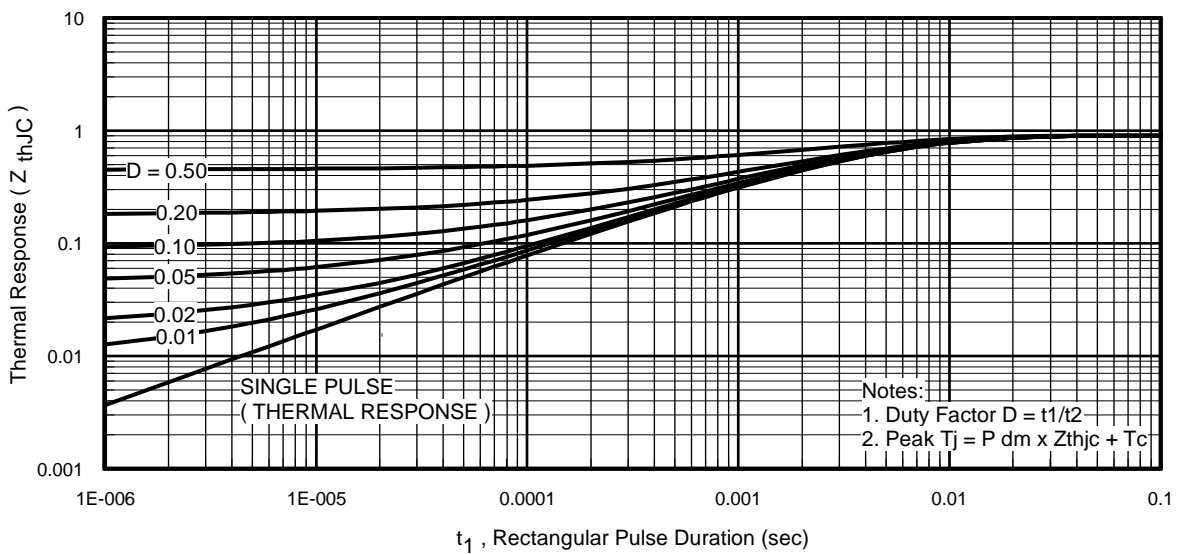
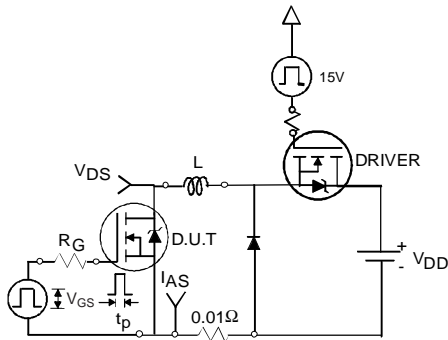

Fig 11. Maximum Effective Transient Thermal Impedance, Junction-to-Case
Fig 12a. Unclamped Inductive Test Circuit
| I_{AR} | Avalanche Current ① | See Fig.12a,12b,15,16 | A |
- ① Repetitive rating; pulse width limited by max. junction temperature. (See fig. 11).
- ② Limited by T_{Jmax}, starting T_J = 25°C, L = 0.12mH, R_G = 25Ω, I_{AS} = 53A, V_{GS} = 10V. Part not recommended for use above this value.
- ③ I_{SD} ≤ 53A, di/dt ≤ 420A/μs, V_{DD} ≤ V_{(BR)DSS}, T_J ≤ 175°C.
- ④ Pulse width ≤ 1.0ms; duty cycle ≤ 2%.
- ⑤ C_{oss eff.} is a fixed capacitance that gives the same charging time as C_{oss} while V_{DS} is rising from 0 to 80% V_{DSS}.
- ⑥ Limited by T_{Jmax}, see Fig.12a, 12b, 15, 16 for typical repetitive avalanche performance.
- ⑦ This value determined from sample failure population. 100% tested to this value in production.
- ⑧ This is applied to D²Pak, when mounted on 1" square PCB (FR-4 or G-10 Material). For recommended footprint and soldering techniques refer to application note #AN-994.
3. Equation below based on circuit and waveforms shown in Figures 12a, 12b.
$Z_{thJC}(D, t_{av})$ = Transient thermal resistance, see figure 11)